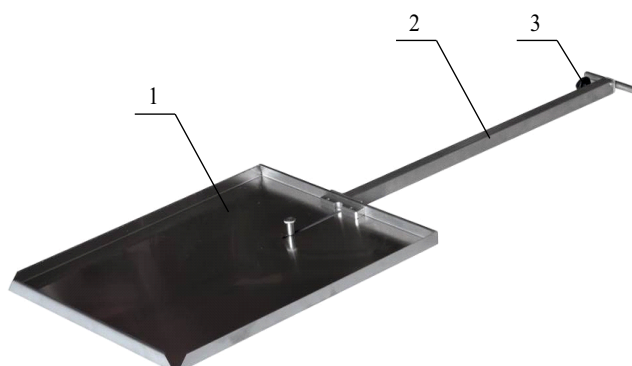

Figure 6. X-ray cassette holder.
6. **X-ray cassette holder** (Figure 6). Metal spatula with a lock and a long folding handle for insertion (installation) of the R-cassette under the X-ray-transparent table top in the longitudinal direction.